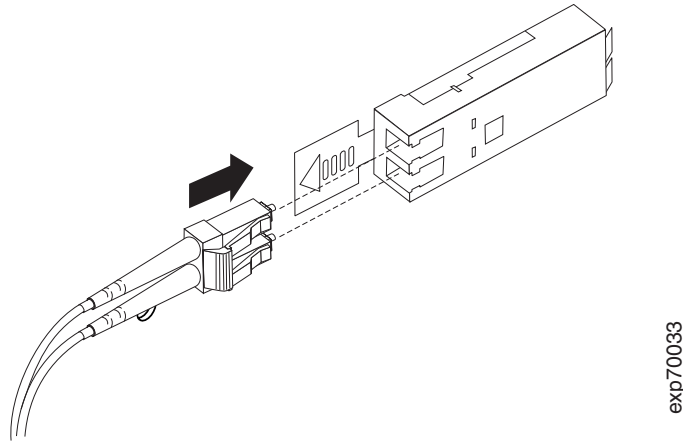

Figure 18. Inserting an LC-LC fibre channel cable into an SFP module
4. Carefully insert that same end of the LC-LC cable into an SFP module that is installed in the storage expansion enclosure. The cable connector is keyed to ensure it is inserted into the SFP module correctly. Holding the connector, push in the cable until it clicks into place, as shown in Figure 18 on page 31.